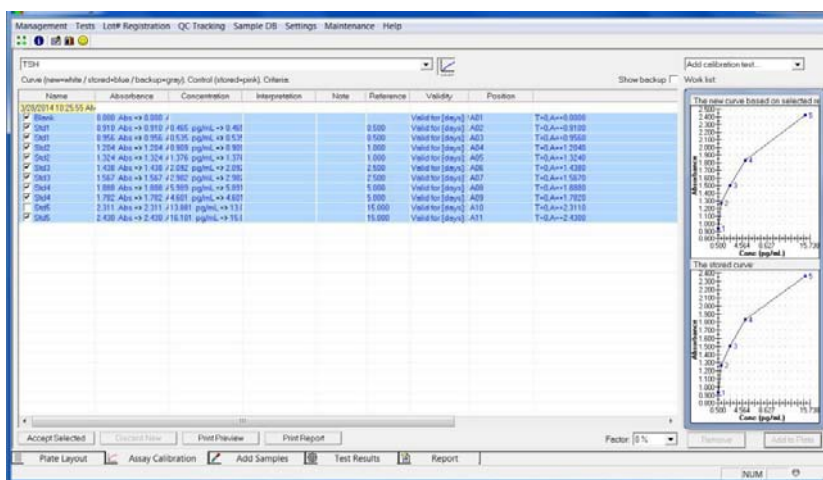

Figure 4.2.2.3-1 Editing a Curve
In the Assay Calibration tab, add the New Curve and New Control to the Work List by selecting the corresponding option from the drop-down menu (1). In the example shown below (Figure 4.2.2.3-2), [ALL] has been selected. All programmed Calibrators and Controls will be added to the Work List. You may run more than one of each of the calibrators.